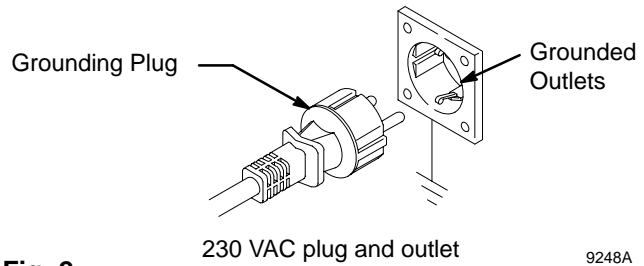

Fig. 2
- The 232918, 232665, 232915, 232914 require a 230 VAC, 50 Hz, 10A circuit with a grounding receptacle. The 232919 requires a 120 VAC, 50/60 Hz, 15A circuit with a grounding receptacle. The 232916, 232917 require a 100 VAC, 50 Hz, 15A circuit with a grounding receptacle. The 232910 – 232913 require 120 VAC, 60 HZ, 15A with a grounding receptacle. See Fig. 2.